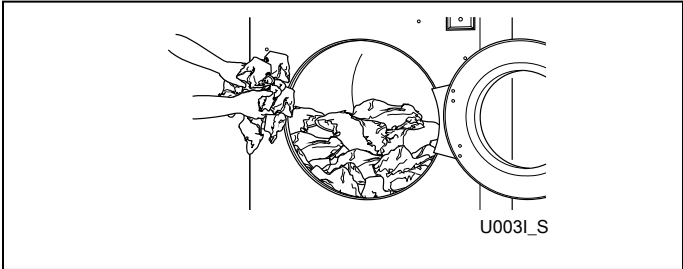

Figure 53
- 3. Load to capacity whenever possible. DO NOT OVERLOAD. Refer to *Figure 53*.